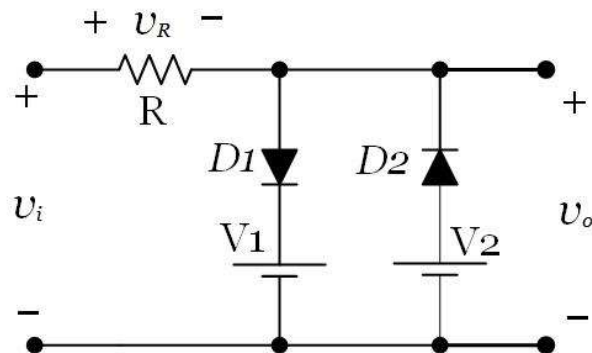

Figure 2.1. Measuring i-v characteristics of a diode.
- Build the circuit in Figure 2.1. Use $R = 1\text{k}\Omega$. $V1 = +1\text{V}$ and $V2 = -1\text{V}$.